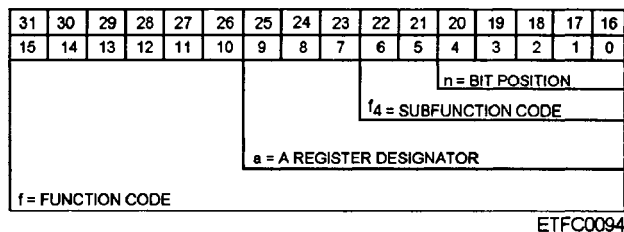

Figure 8-8.—Illustration of instruction word format IV-C.
• **Format IV-C** —Format IV-C instructions (fig 8-8) are used for individual bit operations. These operations include setting, clearing, or testing an individual bit of a specified accumulator register. The 5-bit **n** field provides the bit position pointer to specify the register bit to be operated on.